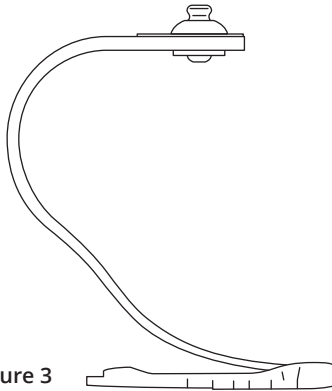

Figure 3
2. Quickly insert toes of the Obsidian blade into the Rubber Sole toe recesses as shown in Figure 3. No adhesive should have contacted the Obsidian blade at this point.